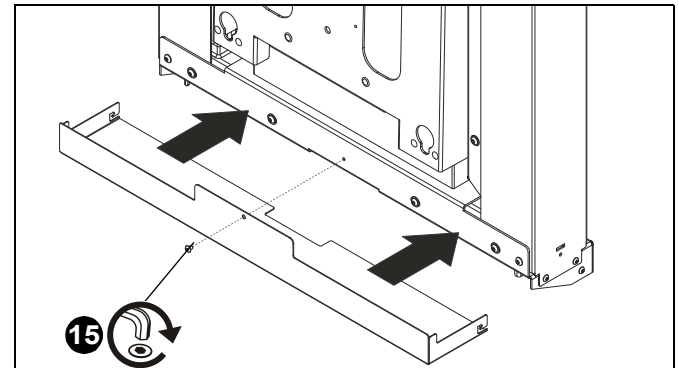

Figure 30
15. Re-install bottom cover and secure with removed button head cap screw. (See Figure 30)